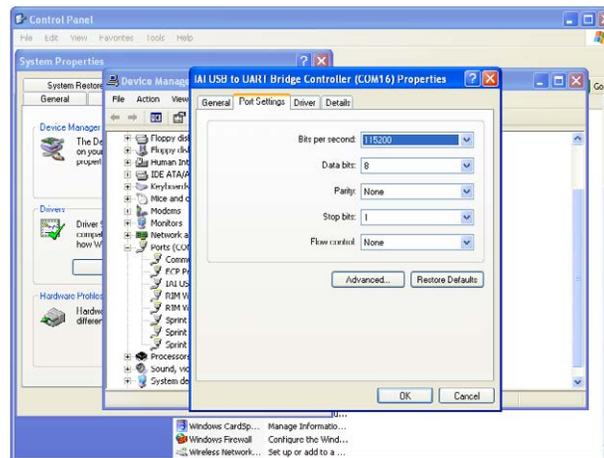

Fig. 1.49 Properties Dialog Box
- [5] The COM? Port Advanced Settings dialog box closes. Click **OK** in the Properties dialog box (Fig. 1.49), and the COM port will be changed.